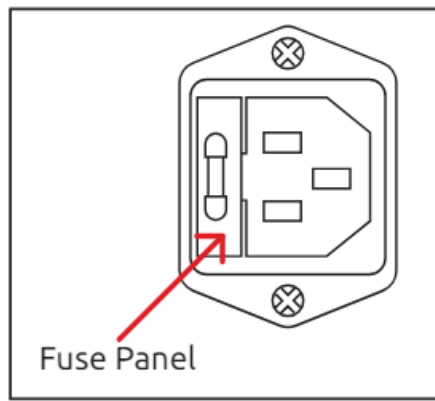
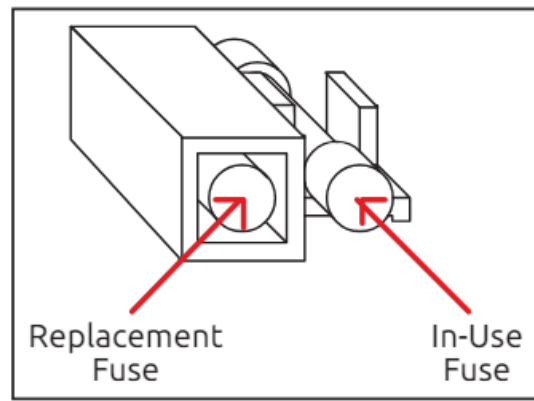

Figure 1
Figure 2
- If the unit is not operating with AC power available or is not charging the connected battery, the AC fuse may need to be replaced. To replace the AC fuse, remove the fuse panel shown in Figure 1. A flat-head screwdriver may be needed. The replacement fuse and the in-use fuse are both marked in Figure 2.